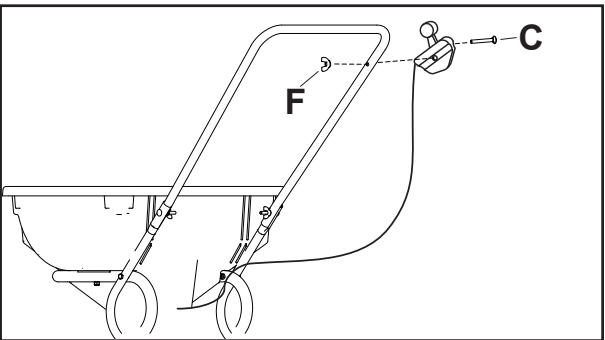

Figure 9
STEP 9 (SEE FIGURE 9): Attach the control cable assembly to the handle tube using a 1/4" x 2" carriage bolt (C) and a wing nut (F). **TIGHTEN ALL HARDWARE FROM PREVIOUS STEPS.**